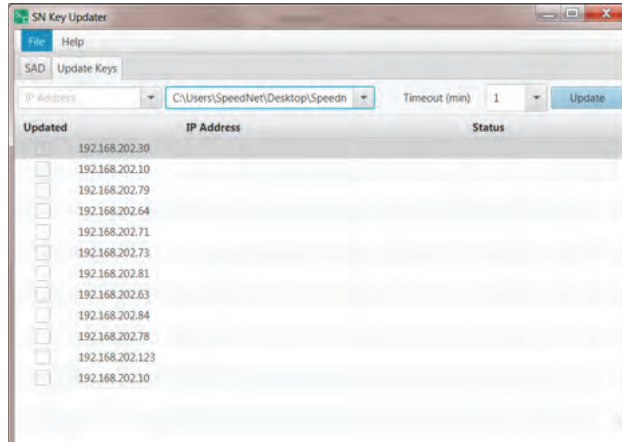

Figure 57. Key Updater IP address listing and Output folder selection window.
STEP 38. Choose an output folder. See Figure 57.